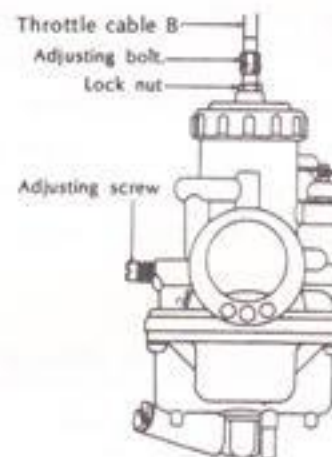

Fig 2-3-5
- 1) To adjust the throttle cable free play with the engine at idle, begin by removing all slack from throttle cable B in Fig. 2-3-5.